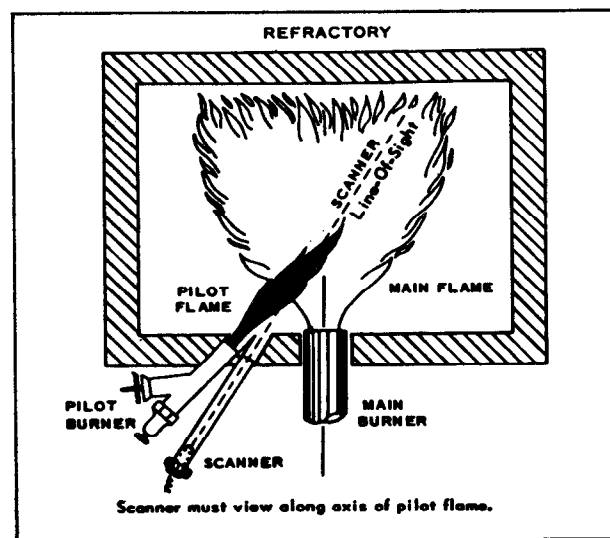

Figure 9
2. Position the scanner sight tube so that scanner line of sight will cross the intersection of pilot flame axis and main flame (Fig. 9). Tack weld the sight tube to the point of entry hole. Should it be necessary to remove refractory to obtain the proper line of sight, prepare a straight hole not less than 1-1/4" I.D. Flare this hole slightly as it enters the combustion chamber.